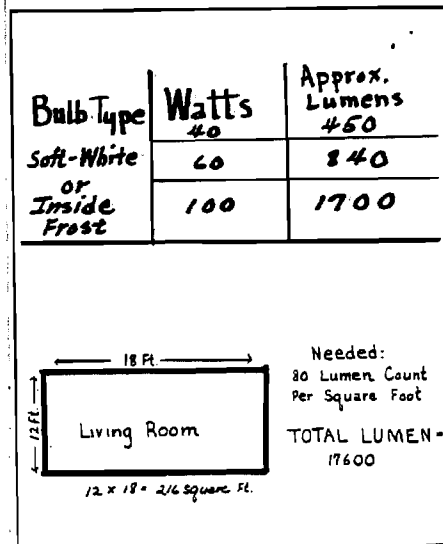

Figure 1
1. Have light that is adequate for the seeing task to be done. (See Figure 1, page 2.)